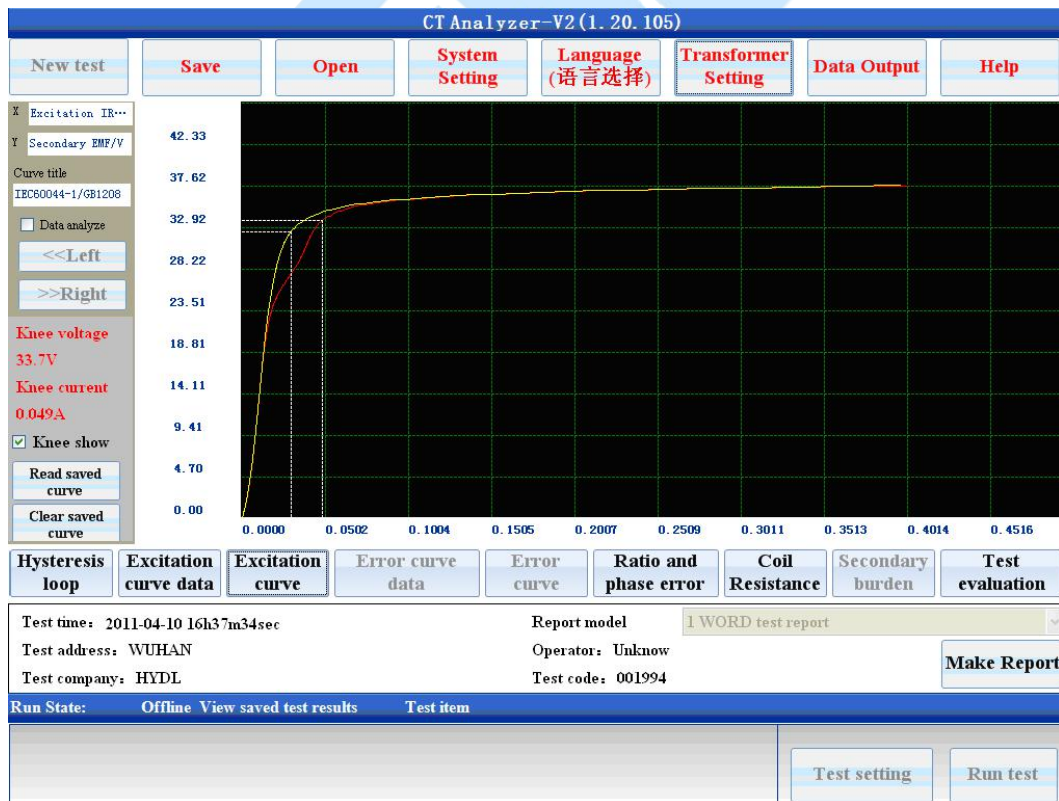

Figure 5.3 Excitation curve compare
The panel of excitation curve is as figure 5.3. The content of excitation curve panel includes follow items.
- 5) Excitation curve compare with saved curve. The saved curve could be load to current results panel when “read saved curve” button is clicked. Both the two curves are drawn on the same scope as figure 5.3. We can find the exact change in transformer excitation curve by this function. The saved curve would be cleared when “clear saved curve ” is clicked.